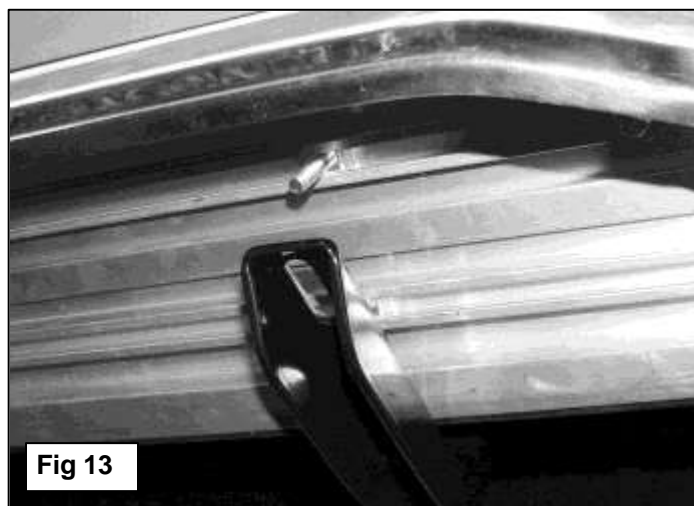

Fig 13
12. Carefully position the Driver/Left Running Board onto the (2) Mounting Brackets. Slide the T-Bolts into position and through the slots in the Brackets, (**Figure 13**). Attach the Board to the Brackets with (4) 6mm Flat Washers, (4) 6mm Lock washers and (4) 6mm Hex Nuts, (**Figure 14**). Do not tighten hardware at this time.